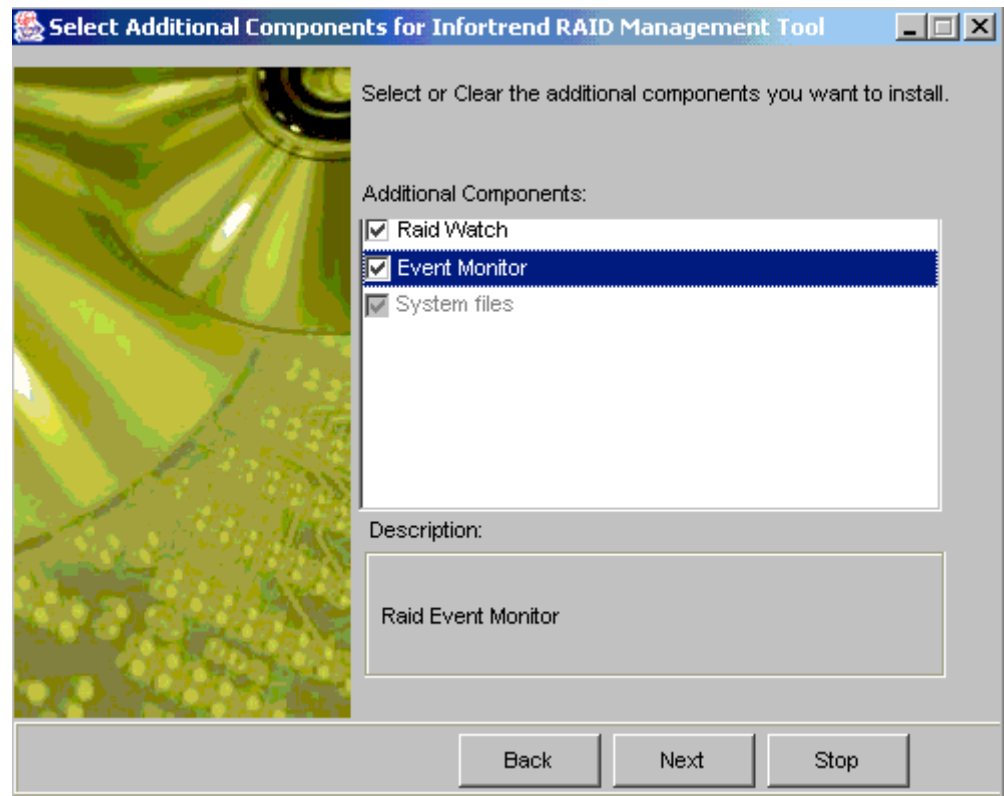
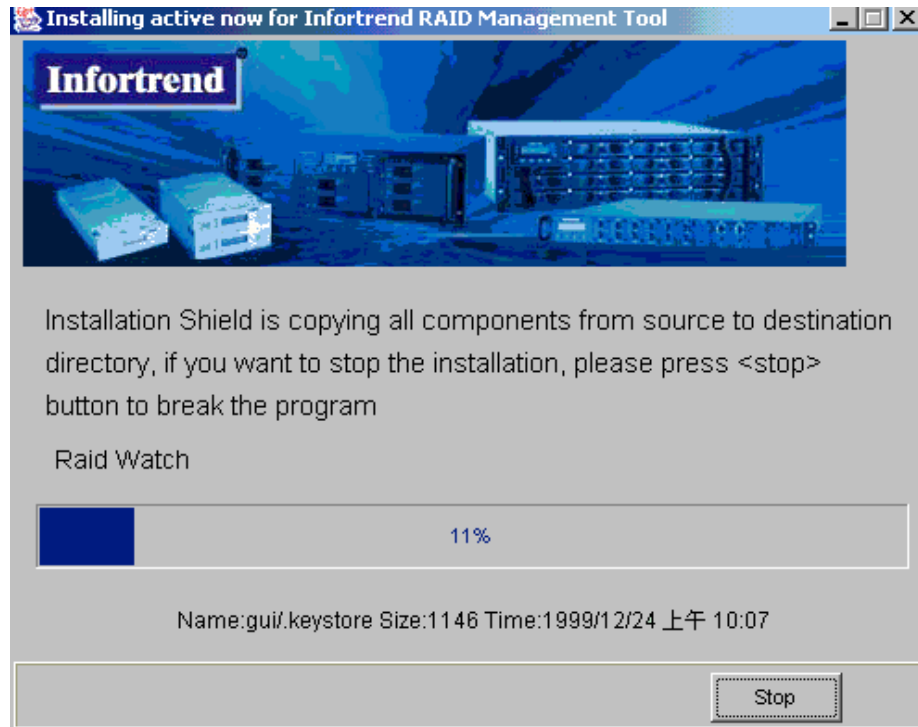

Figure 2-4: Additional Components
Figure 2-5: Installing Active
Step 2. Once you have selected the directory in which you wish to install the *Out of Band* components and if you wish to continue installing the *Out of Band* components, select the “*Next*” button and the screen shown in *Figure 2-4* will appear.
Step 3. From *Figure 2-4* above, additional components can be selected. The default option selects all the additional components, if you wish to de-select the additional components, then use your mouse to de-select those components you do not wish to install.
- Step 4.** If the “*Next*” button from *Figure 2-4* was selected, the Install Active window shown in *Figure 2-5* will appear. If you wish to stop the installation procedure, then click the “Stop” button. If you wish to continue installing the Out of Band components, allow the installation shield to continue the installation process uninterrupted.